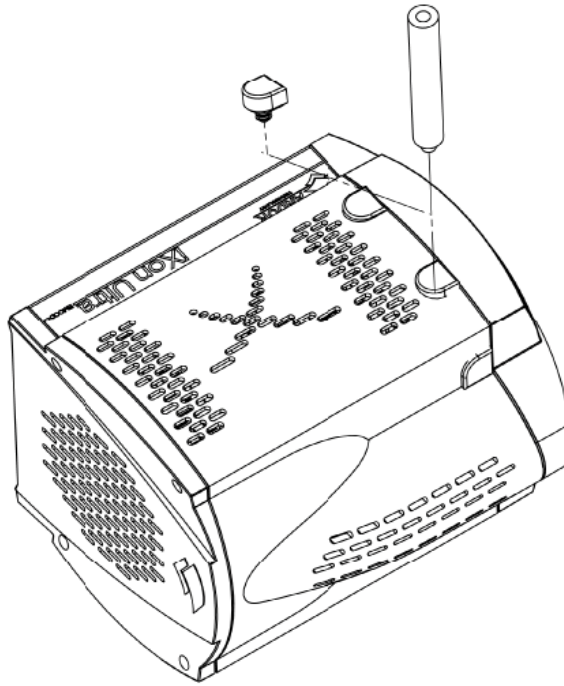

Figure 7: Attaching the Mounting Posts
1. Carefully remove the black grommet(s) as shown in Figure 7.